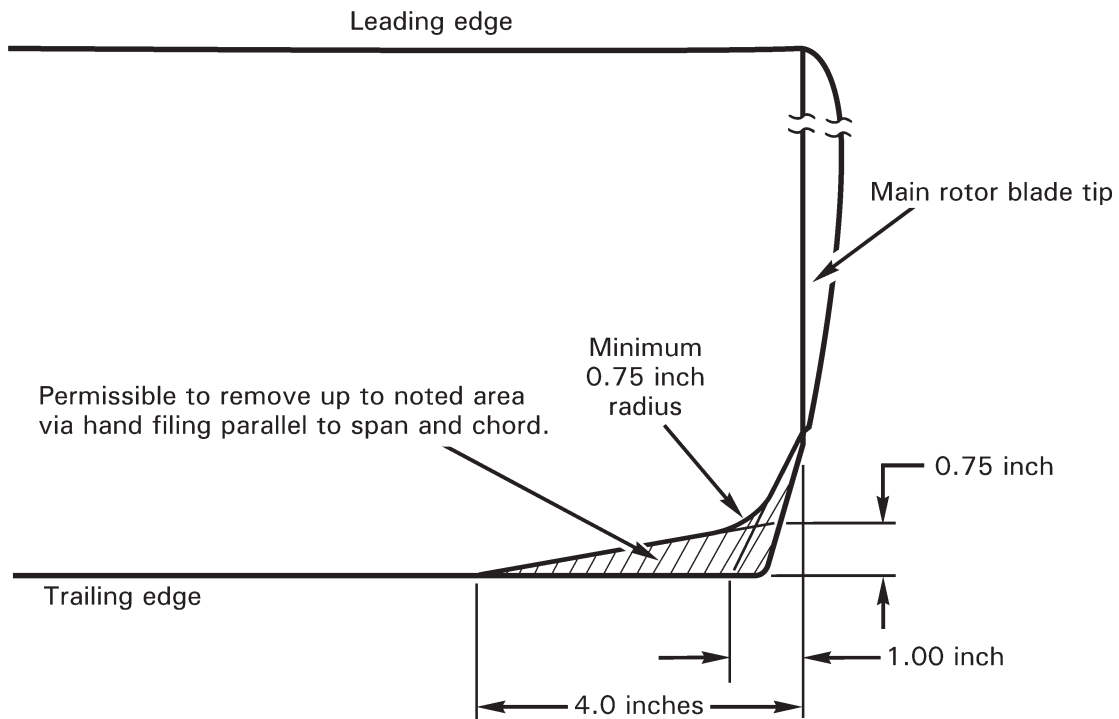

FIGURE 62-17 BLADE TIP REPAIR LIMITS
1. Refer to Figure 62-17. Using a fine-toothed hand file, file in spanwise or chordwise direction, within limits indicated. Remove file marks using 220 grit or finer aluminum oxide abrasive paper.